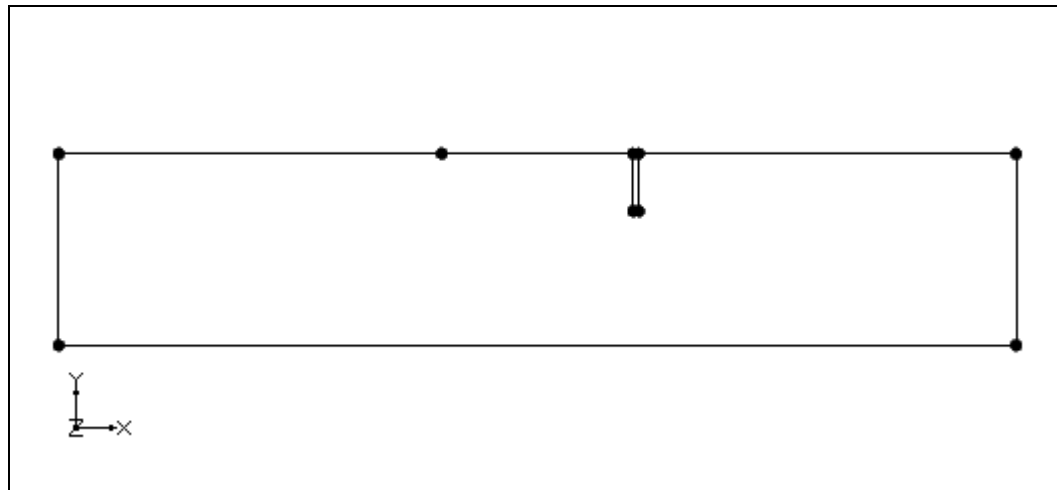

Figure 8. Arcs Connecting Points
10. Your model should now look like Figure 8.